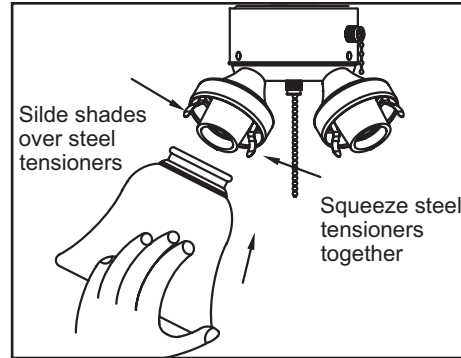

Figure 14
1. Insert the glass shade into the glass shade holder by carefully squeezing the steel tensioners on the light kit fixture socket together (Figure 14).
2. Gently slide the glass shade over the steel tensioners. Make sure the glass shade is fully inserted into the socket for a secure fit (Figure 14). Repeat for the remaining glass shades.